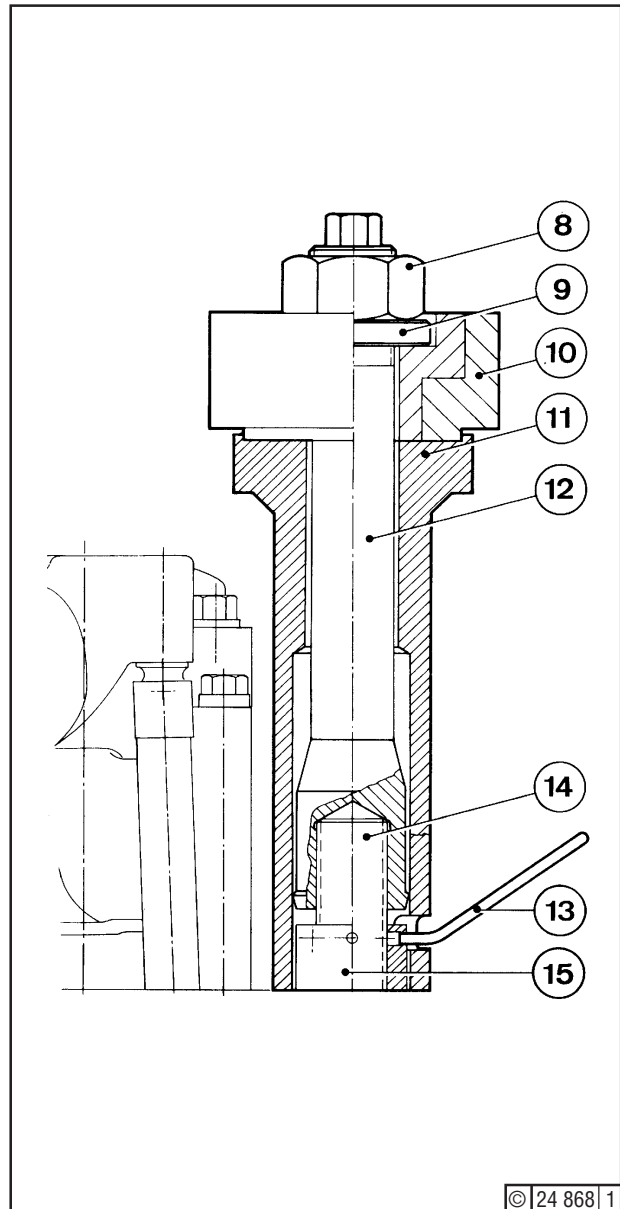

Fig. 4
Releasing Annular Nut (15) - Fig. 4
To avoid jamming *) - fig 4 - of nut (15) by stud (12), be sure not to screw nut (15) against the stud. Unload pressure and disconnect hose. Unscrew hex. nuts (8) and remove tools (10) with bushes (11). Unscrew stud (12) and annular nuts (15).